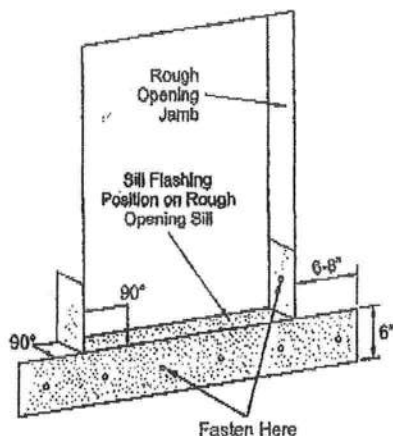

Figure 1
3. Apply flashing to the sill. (See Figure 1)